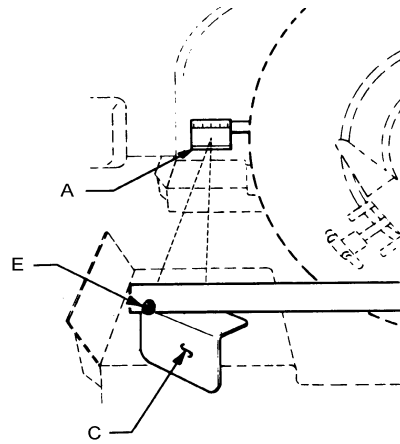

Figure 29
The Left Laser Toe Gauge projects a laser beam onto the right mirror (A). This beam is reflected back to the graduated toe scale on the Left Laser Toe Gauge. (See Fig. 29)